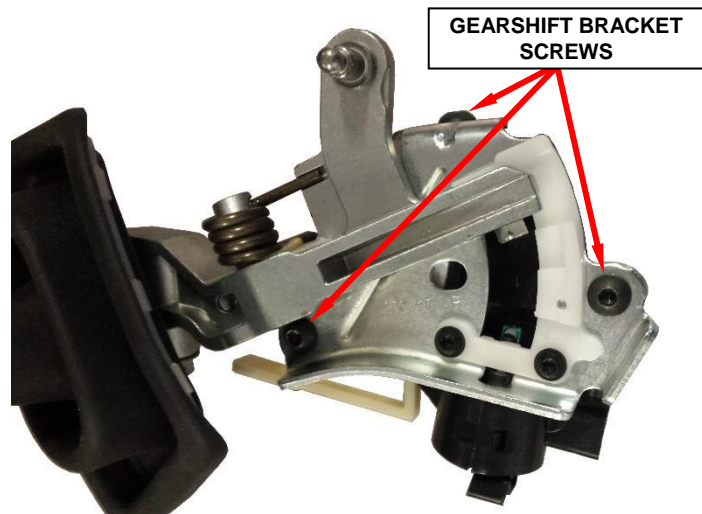

Figure 12 – Gearshift Bracket / BTSI Assembly Screws
18. Remove and save the three T27 star-head screws securing the gearshift bracket / BTSI assembly to the steering column (Figure 12).
31. Install the three T27 star-head screws securing the gearshift bracket / BTSI assembly to the steering column. Tighten the screws to 10 N·m (89 in. lbs.) (Figure 12).